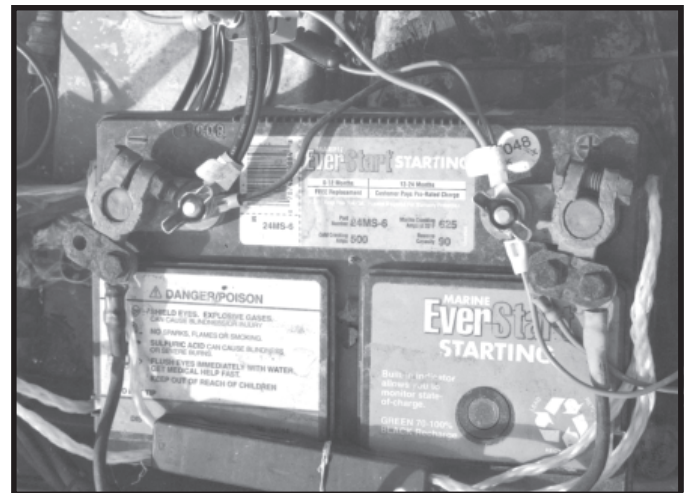

FIG. 19
Step 12: Connect the ring terminal labeled **pos** to the positive battery terminal and connect the ring terminal labeled **neg** to the negative battery terminal. (Fig. 19)